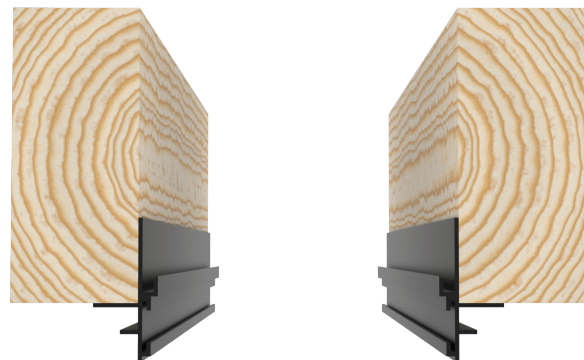

Figure 12 (Step 3B):
- B. Install and secure sub frame provided in framing – see Figure 12. Note: sub end borders need to be cut to size and notched if used.